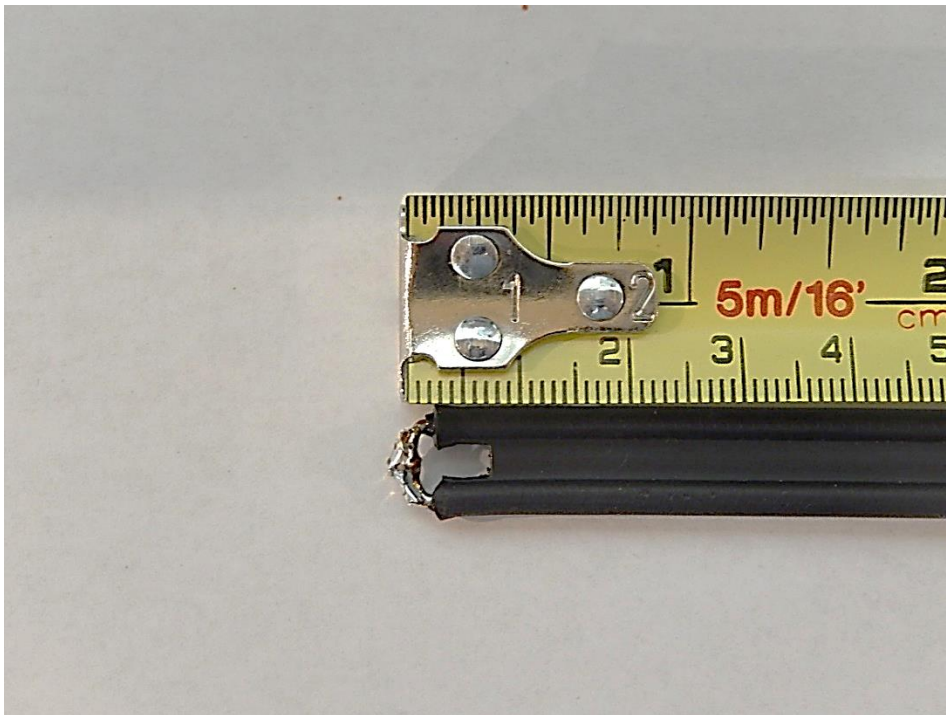

Figure 6a
6. Measure from the soldered end to 128.5 cm and mark the twin lead with the sharpie (**DO NOT CUT IT AT THIS TIME – READ STEP 7**). (fig 6a, 6b)